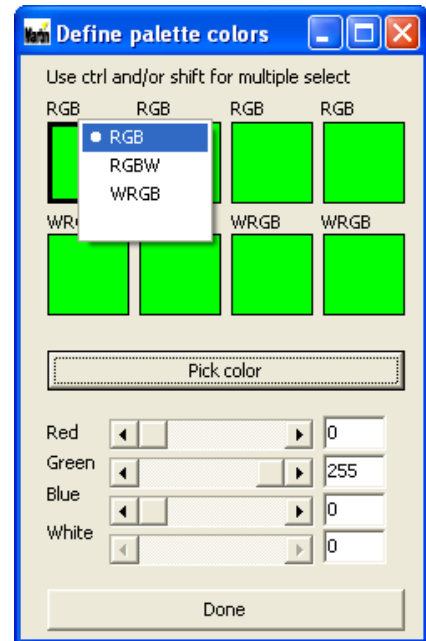

Figure 9: Selecting color control mode
- The color control mode setting for each group is displayed above that group's box. To change a setting, right-click on the box. See Figure 9. A pop-up dialog box appears. Select **RGB**, **RGBW** or **WRGB** to apply that color control mode to the group. Repeat for all the groups you want to set up.